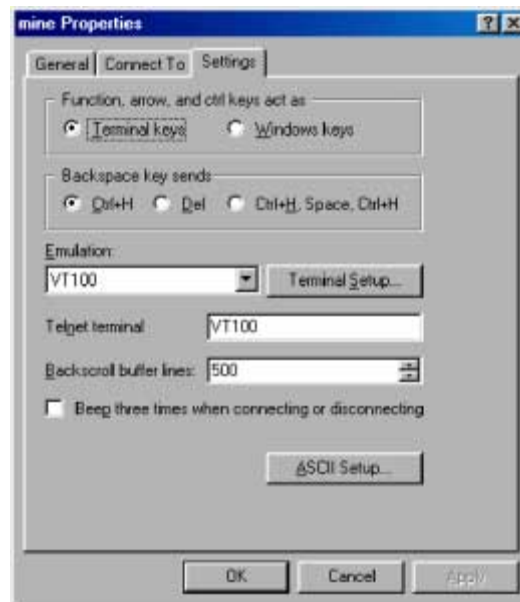

Figure 36. Terminal keys configuration
- Configure the settings for *Function, arrow and ctrl keys act as to Terminal keys* as shown in figure 36.